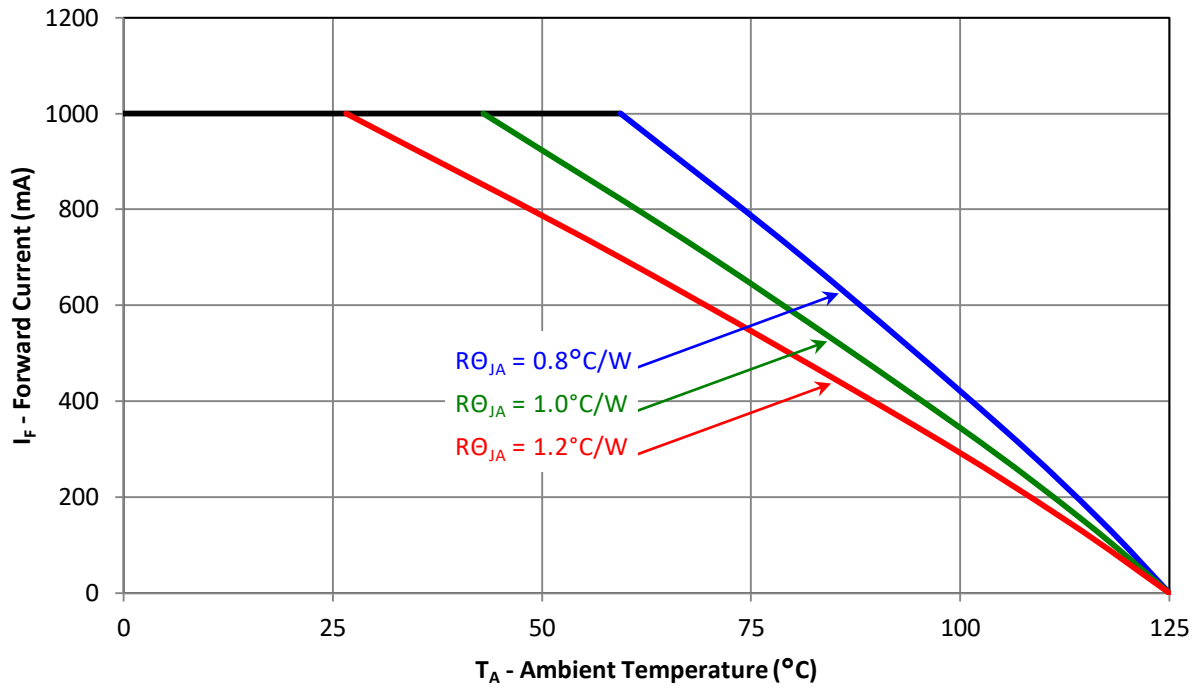

Figure 11: Maximum forward current vs. ambient temperature based on  $T_{J(\text{MAX})} = 125^\circ\text{C}$
- Maximum DC forward current is determined by the overall thermal resistance and ambient temperature. Follow the curves in Figure 11 for current derating.
Notes for Figure 11: